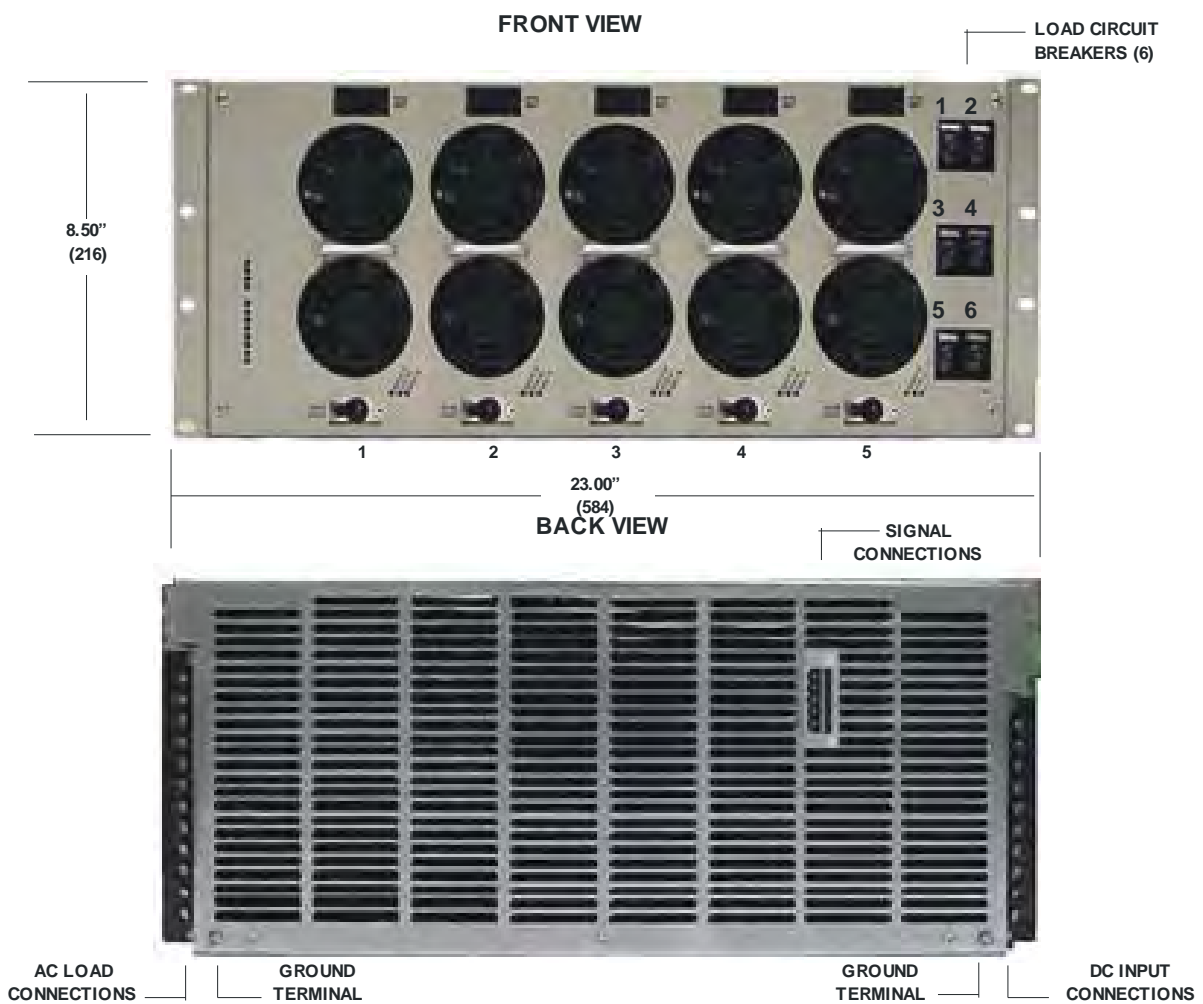

Figure 3 - Front and Back Panels of IX12.5 Inverter System
- 7.3 The front and rear views of the INVR5U-HS shelf are shown in Figure 3. The shelf holds five of the INV2500-HS hot-swap inverter modules. On the right side of the front panel are six AC load breakers, each of which may be from 5 to 30 amperes.